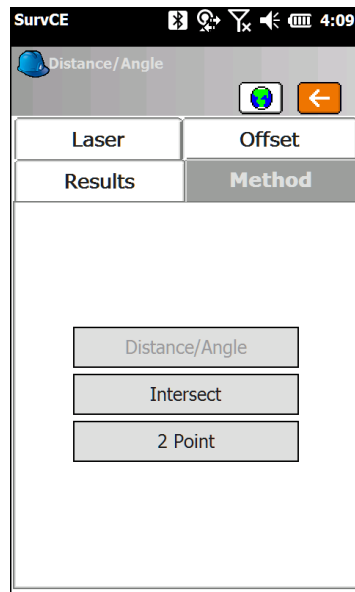

Figure 16
1. From the Offset screen, choose the Method tab and select 2 Point (Fig.16)